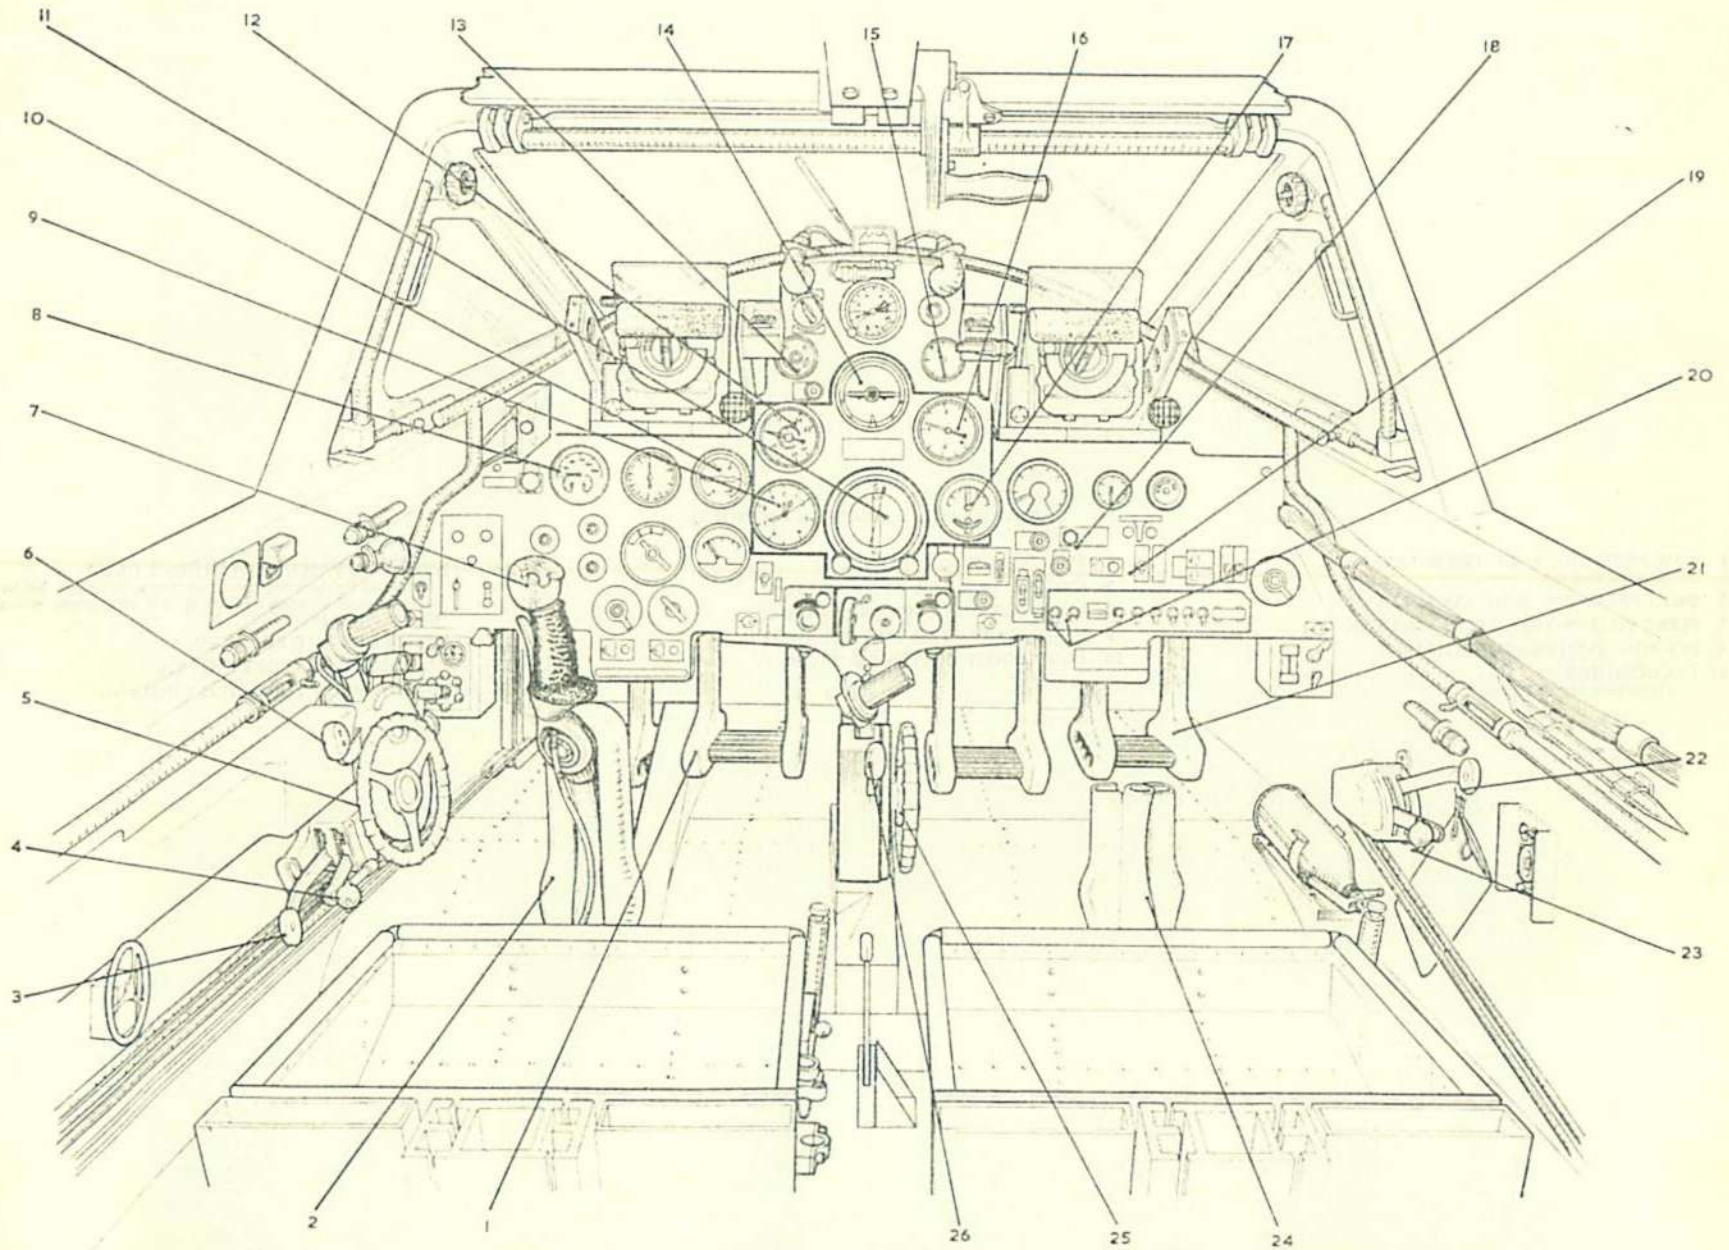

Fig. 1. Flying controls
5. The quadrant of the flap selector lever (*fig. 1*), is marked FLAPS UP—NEUTRAL—DOWN. Any flap position up to 80 deg. can be obtained by returning the selector lever to the NEUTRAL position when the desired angle is shown on the flap position indicator. After selecting flaps DOWN (80 deg.) the selector lever must be returned to the NEUTRAL or locked position on completion of the flap movement. The lever should, however, be left in the UP position for flaps up. The flap control is duplicated for the second pilot (*fig. 1*) and the lever operates identically to that for the first pilot.
KEY TO FIG. 1 (FLYING CONTROLS)